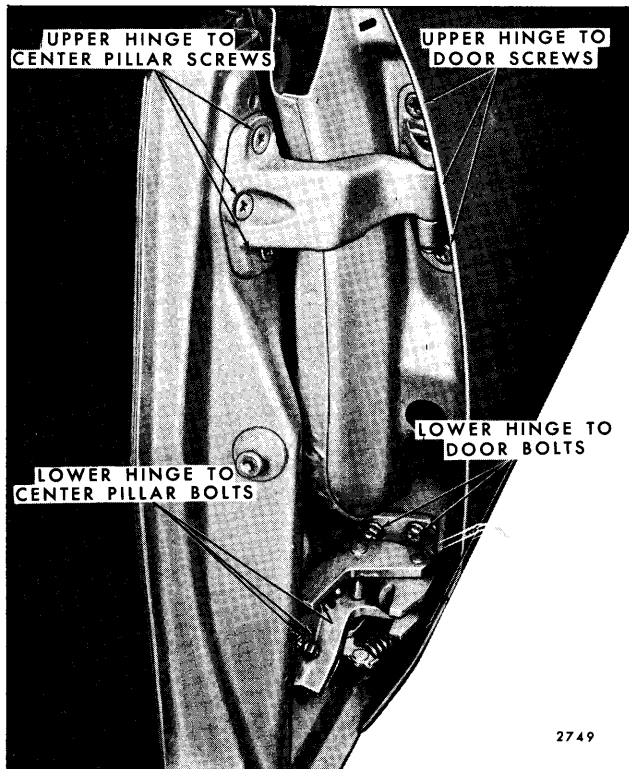

Fig. 6-90—Typical Rear Door Hinge Installation
3. With door properly supported, loosen upper and lower hinge attaching screws or bolts from door or center pillar and remove door from body. Figure 6-90 is typical of rear door hinge attachment.